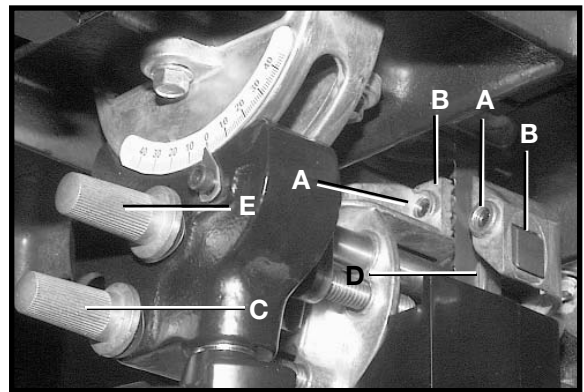

Fig. 27
2. Adjust the front edge of the guide blocks (B) so that they are just behind the "gullets" of the saw teeth. Turn the knurled knob (C) Fig. 27 to make this adjustment. Check the support bearing. It should not be touching the back of the blade.
3. Loosen the two screws (A) Fig. 27. Move the guides (B) as close as possible to the side of the blade, being careful not to pinch the blade. Tighten screws (A).
4. Turn the other knurled knob (E) to adjust the lower blade support bearing (D) Fig. 27, so that it is about $1/64$ " behind the back of the blade.